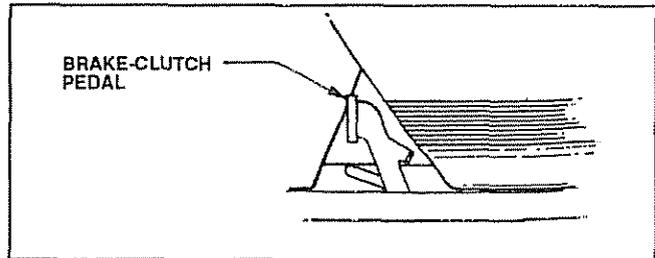

Fig. 30A
TO ADJUST TRACTOR DRIVE BELT (See Figs. 30A and 30B)
- The brake-clutch pedal should appear as shown in Fig. 30A when in the fully released position. If not, then the following adjustment is necessary.
- The brake-clutch pedal should appear as in Fig. 30A on page 26, when in the fully released position. If not, then the following adjustment is necessary.